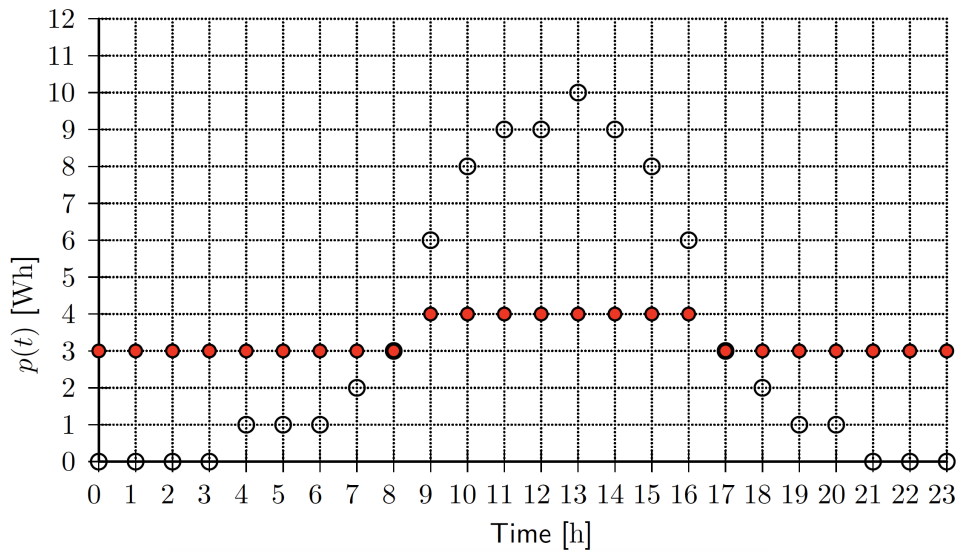

Figure 5: Application Control, Task (b)
- (b) (8 points) Suppose now that  $B = 33 \text{ Wh}$ . The harvested energy function  $p(t)$  is given in Figure 5. Determine an optimal energy usage function  $u^*(t)$  that maximizes the utility and never leads to failure state. Draw  $u^*(t)$  into Fig. 5.
- When choosing  $u(t)$  for the whole day, then this appears to be the maximal minimum use energy: At b(17), the battery is full and at b(8) it is empty. Any further increase in  $u(t) = 3$  will inevitably lead to an unfeasible solution.
- During the time interval with surplus energy ( $t \in [9, 16]$ ) we can increase the use function to  $u(t) = 4$  without violating any feasibility constraint and still achieving a full battery at time 17. Red dots in Fig. 5 represent  $u^*(t)$ .